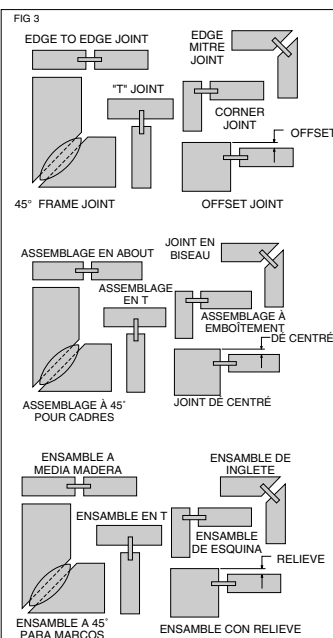

FIG 4
6. Reinstall the blade by reversing the steps above. Be sure blade teeth point counterclockwise as shown in Figure 4.